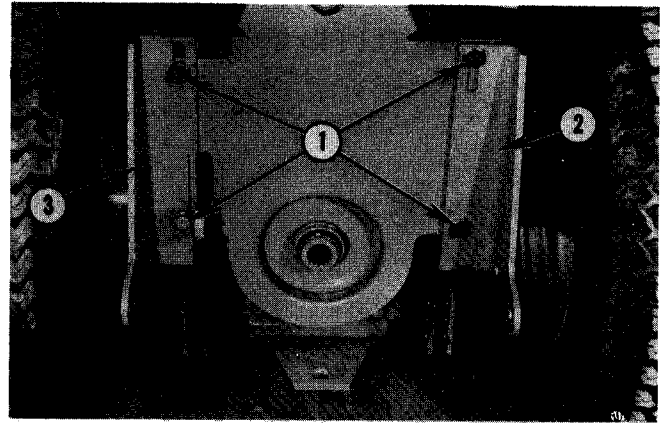

Fig. 3 - UPPER TILLER MOUNTING BRACKETS
Using four (4) new bolts supplied with Tiller hardware, attach the two (2) upper Tiller mounting brackets, as shown in Fig. 3. Do not tighten these four (4) bolts yet and note that there is a right and left hand bracket.